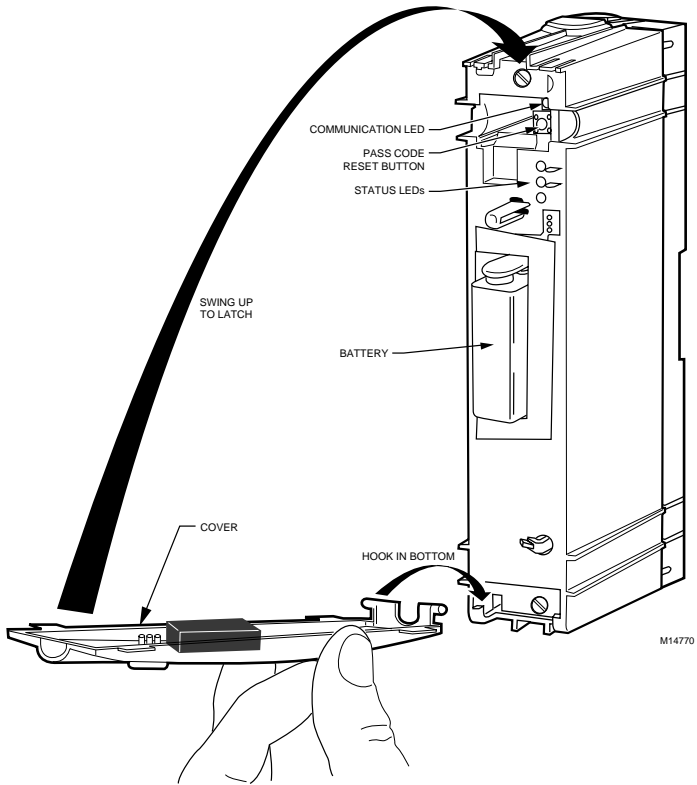

Fig. 11. Replacing module cover.
5. Replace the cover. See Fig. 11.